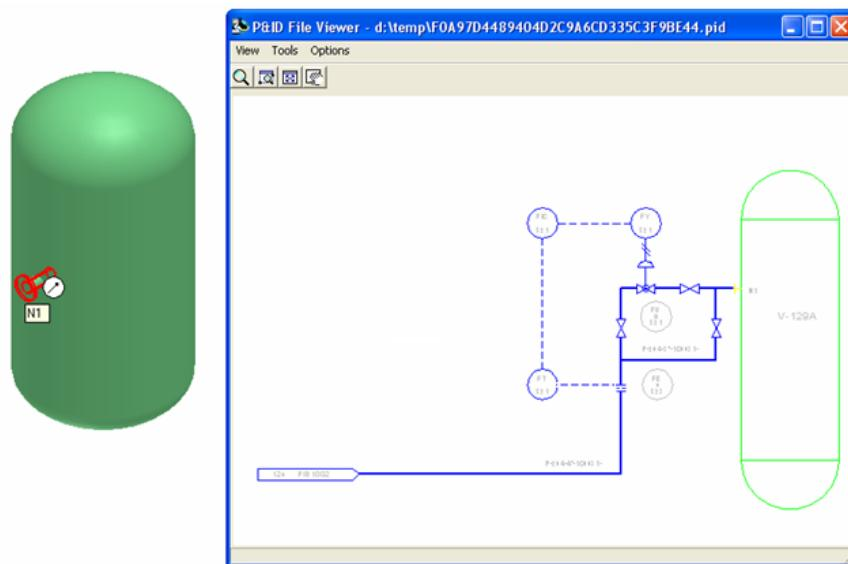

Figure 7.31: Selected Equipment Nozzle N1
4. Click the **Route Pipe** button on the vertical toolbar to start routing the pipe run on the equipment nozzle **N1**, as shown in Figure 7.31.